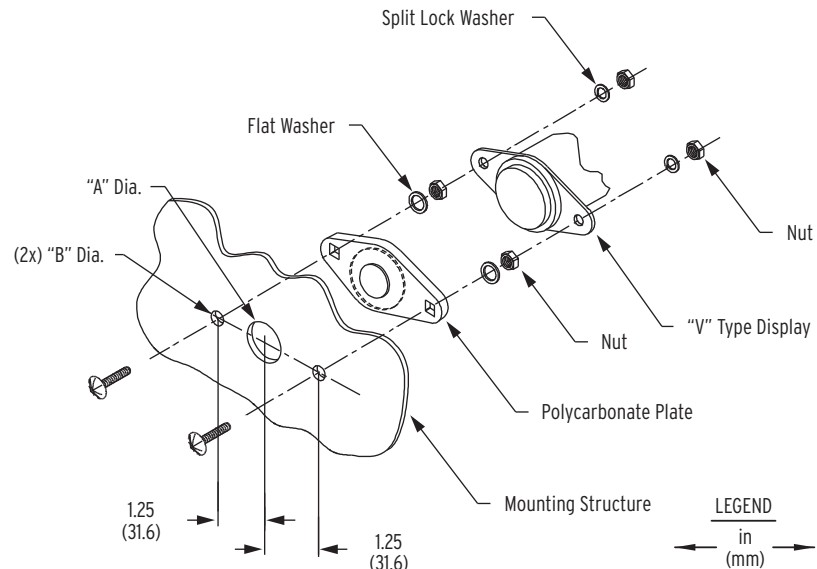

Figure 24 Remote Display Installation
- Step 1. Punch or drill two 10.5 mm (25/64") and one 27 mm (1 1/16") holes as shown in *Figure 24*, or use the template to align the holes. Consult the enclosure manufacturer for recommended corrosion treatment of the holes.
- Step 2. Remove the polycarbonate plate from the assembly kit bag and secure it to the mounting structure with carriage bolts, flat washers, and nuts as shown in *Figure 24*.